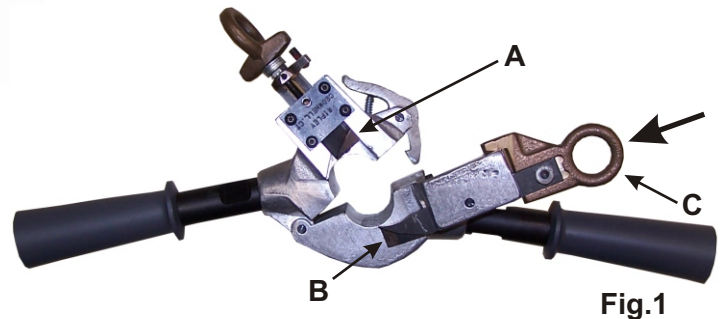

Fig.1
Step 1. Check blade settings. (Fig.1) Before operating the tool and stripping cable, check that the channel blade (A) is fully retracted outside the bore of the tool. The stripping blade (B) should also be clear of the tool bore. The stripping blade handle (C) should be in the forward position as shown